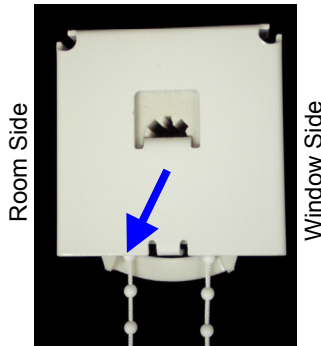

Figure 19 Clutch End
- Grasp the bead that is at the top front of the clutch (Figure 19), pull it down, and attach the bead stop at that bead. On a plastic chain, simply snap the bead stop onto the chain (Figure 20). For a metal chain, crimp the stop onto the chain with grooved pliers (Figure 21).